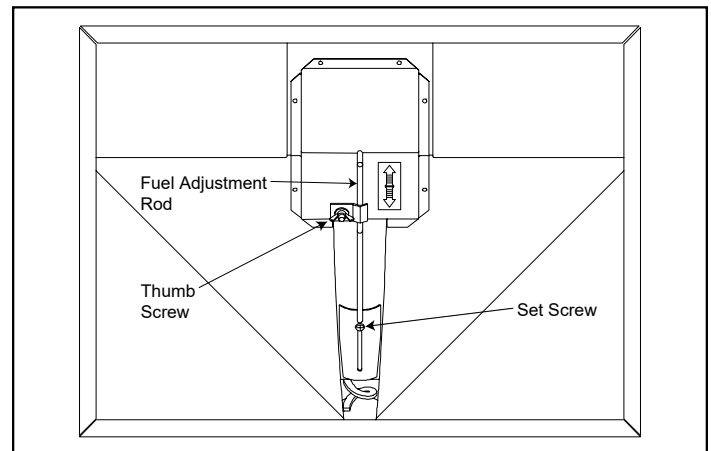

Figure 11.3
The feed adjustment control rod is factory set, and should be adequate for most fuels. The set screw is located at the bottom of the hopper and *set loose at the factory* so the fuel adjustment control rod will slide by only loosening the wing nut (**Figure 11.3**). Do not re-tighten bottom set screw.
1. Loosen the wing nut (**Figure 11.3**).